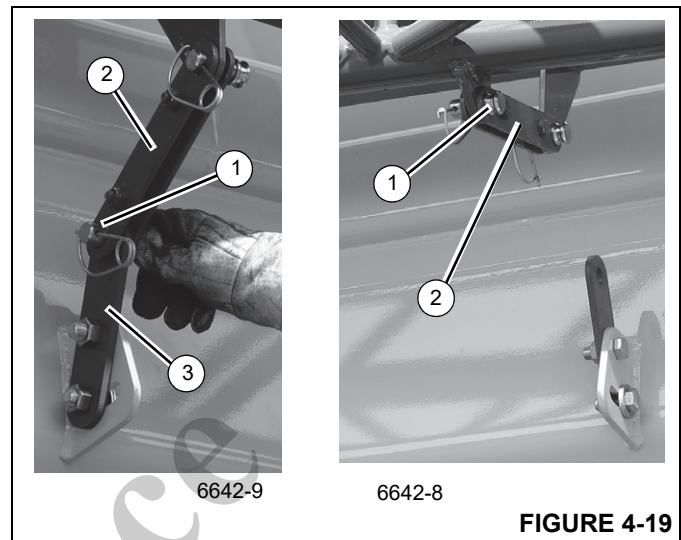
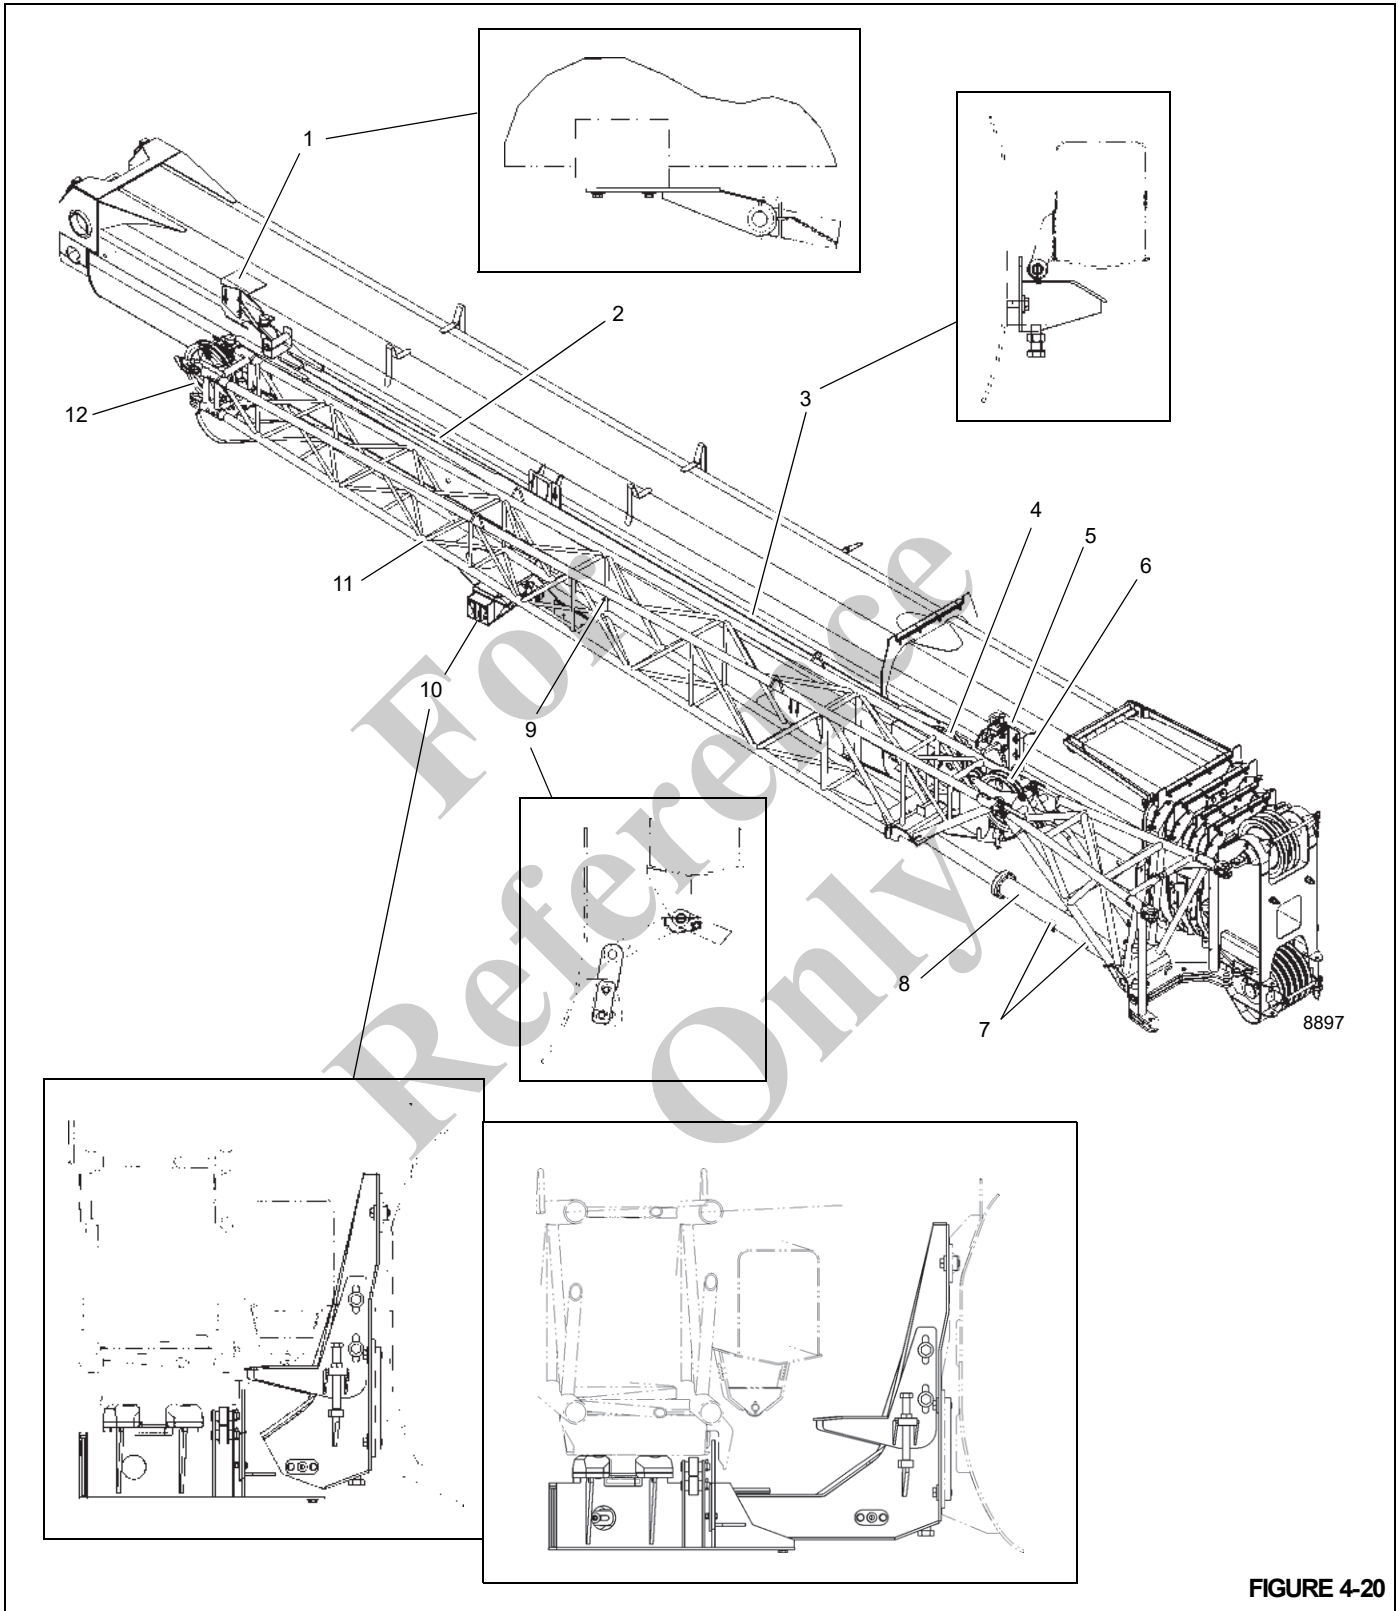

FIGURE 4-19
FIGURE 4-20
Remove the clip pin and cable retaining pin at the mast sheave (6, Figure 4-20), then remove the hoist cable. Reinstall cable retaining pins and secure with clip pins.
- e. Connect locking bar (9, Figure 4-20; 1, Figure 4-16) to boom extension base section attachment bar (2) using pin (3). Secure with retaining clip.
- 17. Extend boom approximately 12 in so boom extension base section stowage lugs will line up in front of the middle stowage bracket guide ramp (10, Figure 4-20) and stowage pins (14, Figure 4-20) on the front stowage bracket assembly (5, Figure 4-20) when the boom extension is positioned to the side of the boom base.
- 24. Secure boom extension base section to front stowage bracket (5, Figure 4-20) on boom base using lock hitch pin (13, Figure 4-20). Ensure lock hitch pin is pushed in all the way, then secure with retaining clip.
27. Using control pendant, fully retract middle stowage bracket (10, Figure 4-20).
28. Ensure the two stowage lugs on the boom extension base section are fully engaged with the pins (14, Figure 4-20) on front stowage bracket (5, Figure 4-20).
29. Secure boom extension fly section to rear stowage bracket (1, Figure 4-20) on the boom base using the attachment pin. Secure attachment pin with retaining clip.
31. Remove pin (1, Figure 4-19) from boom base attachment bar (3). Move locking bar (2, Figure 4-19; 10, Figure 4-20) to boom extension base section and install pin (1). Secure with retaining clip.
FIGURE 4-20 continued